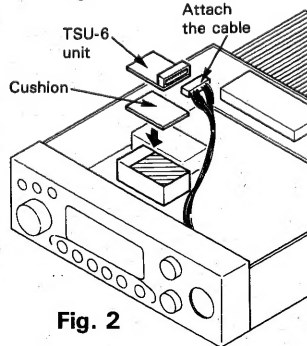

Fig. 2
3. Remove the backing from the small cushion provided with the TSU-6 and attach it to the back of the TSU-6 as shown in Fig. 2
4. Attach the cable from TSU-6 as shown in Fig 2.